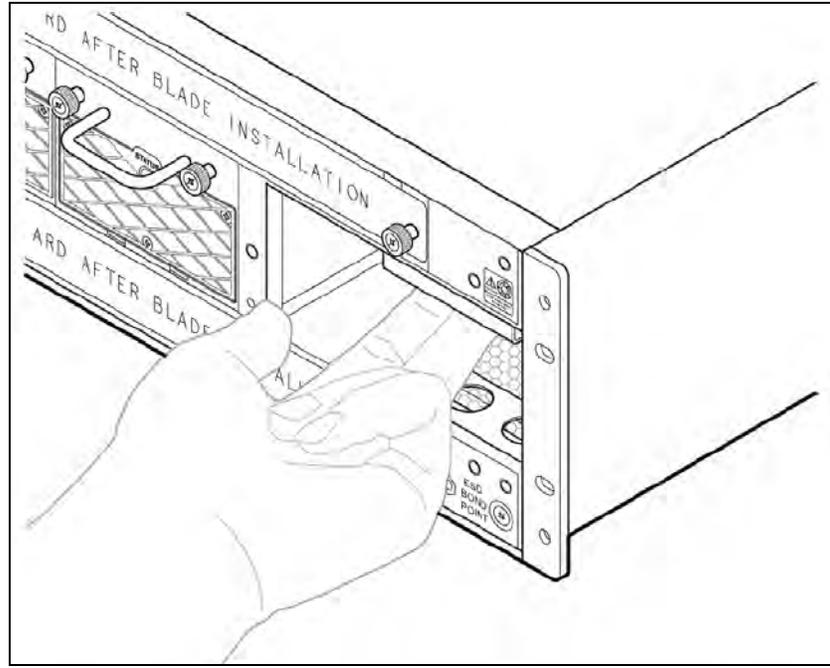

Figure 5.9 - Top Air Filter Frame Removal
5. Insert two fingers in the round holes at the front of the air filter frame and pull it downward and out of its compartment (**Figure 5.9**). If you cannot remove the frame with your fingers, you can also use a tool such as a screwdriver.